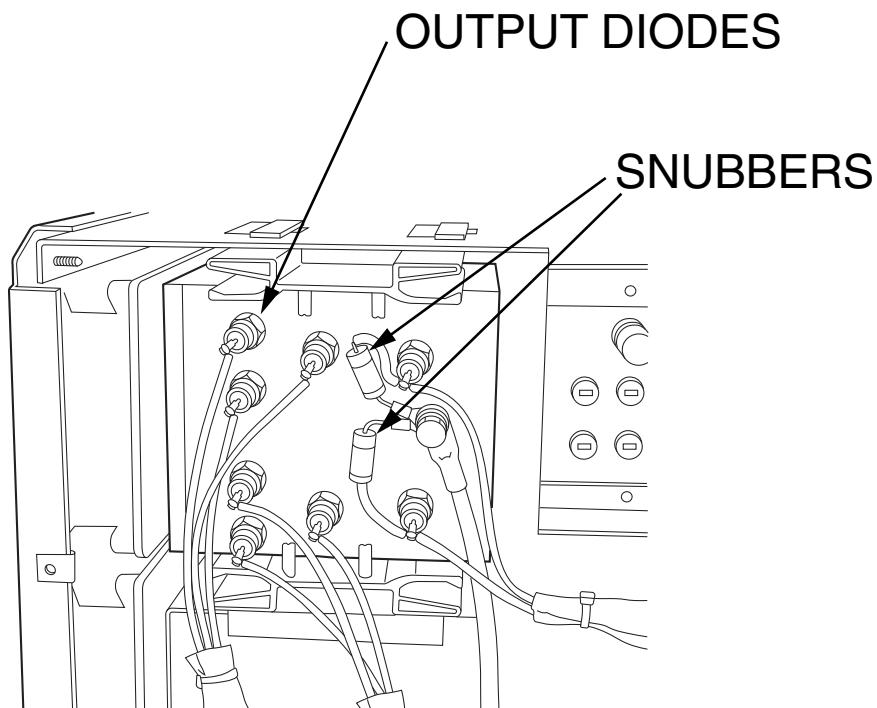
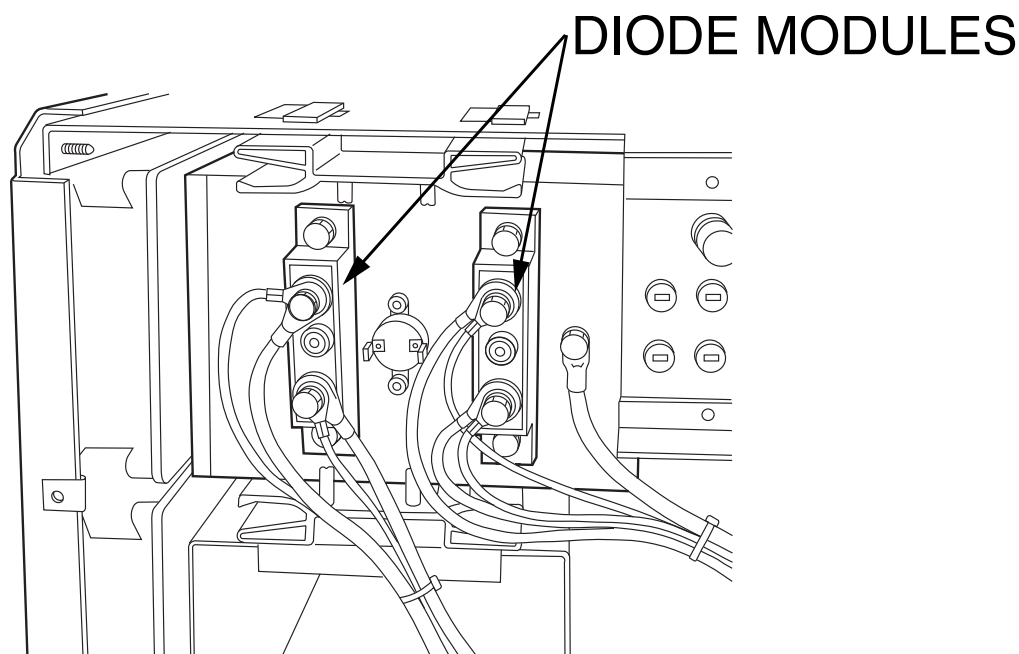

Figure F.6 Output Diodes and Snubber Locations (Codes 10102 and 10103)
Figure F.7 Output Diode Module Locations (Codes 10187 and 10188)
8. Locate output diodes and snubbers. See **Figure F.6.** for machine codes 10102 and 10103 only. See **Figure F.7.** for machine codes 10187 and 10188 only.